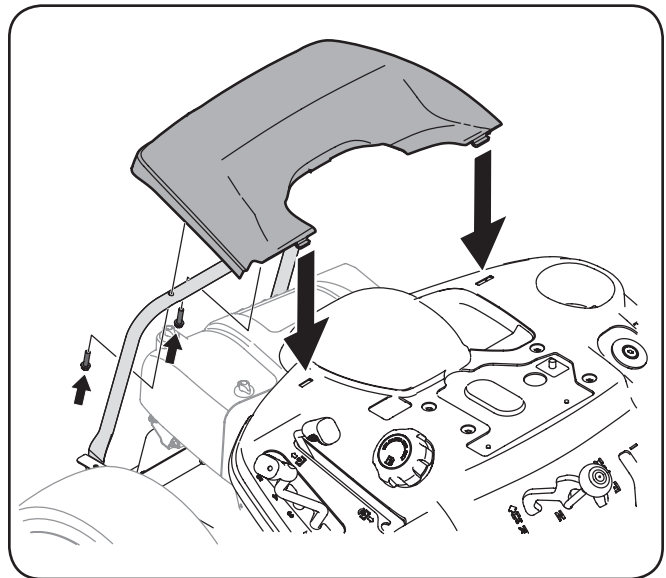

Figure 3-8
- Install the rear engine cover by positioning it in place as shown in Figure 3-8. Tip the engine cover forward to fit it into the slots provided, then rotate it backwards to align the mounting holes.